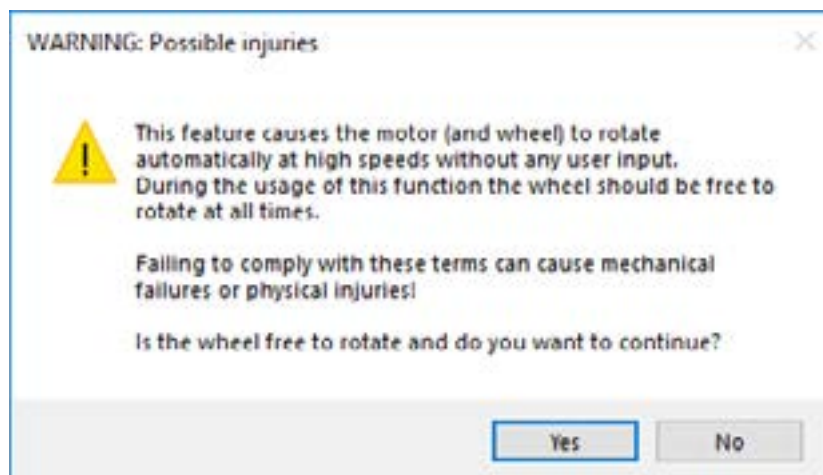

Figure 3.43 Motor learning – Confirmation the bike is prepared
2. Once the bike is prepared, click on “Yes” (Fig. 3.43).